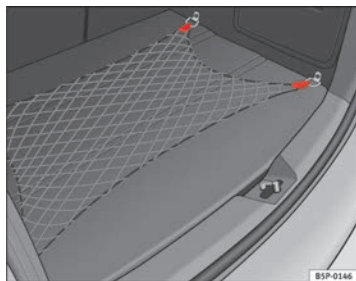

Fig. 109 Retaining net
- Use the fastening rings located on the side of the luggage compartment to attach the retaining net ⇒ fig. 109.